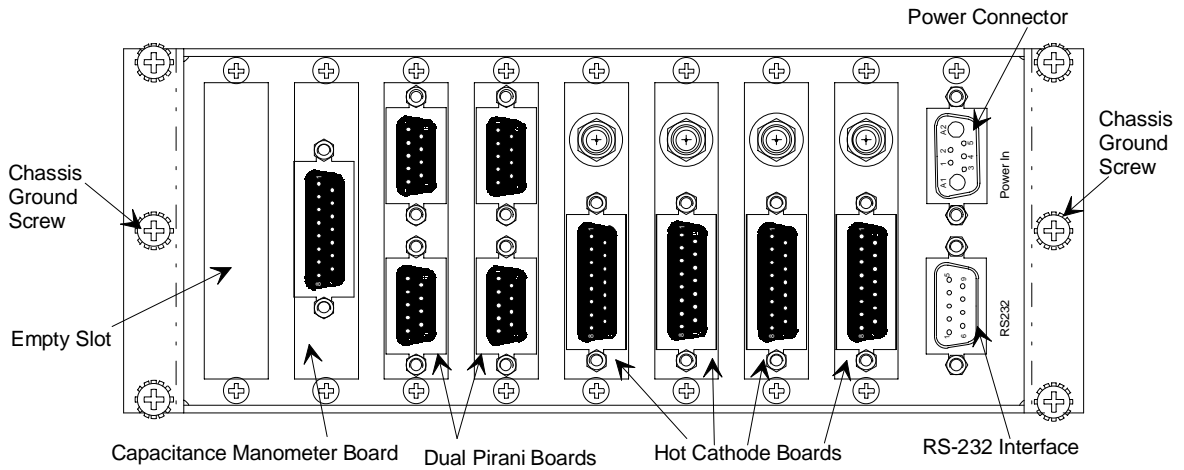
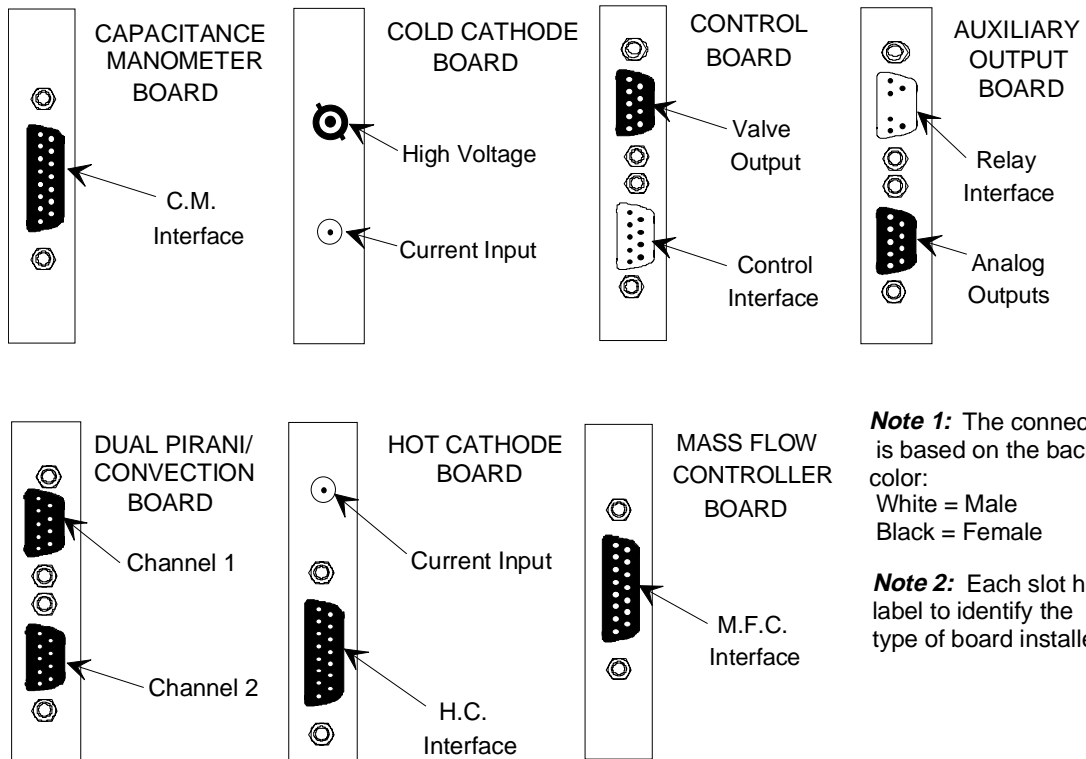

Figure 1: Rear Panel of the Type 186 Unit
Figure 2: Plug-In Boards
All or some of the following boards may have been ordered with your basic 186 instrument. Examine the rear panel of the 186 unit to make sure your unit conforms to your model code. Refer to Figure 1, page 23, to identify these boards by their connectors on the rear panel. *Appendix B: Model Code Explanation*, page 147, provides an explanation of the model code.
Figure 1, page 23, shows the rear panel of the 186 instrument with a Capacitance Manometer board, four Hot Cathode boards, and two Pirani boards. The rear panel on your instrument will conform to the ordering code used to purchase the instrument. Figure 2, page 23, shows the connectors on each board.
Mount the 186 instrument securely and use a grounding lug to connect the 186 instrument to a chassis ground source. If the mounting position does not provide a chassis ground source, run a cable from a known, good chassis ground to either middle screw on the rear panel of the 186 instrument. Refer to Figure 1, page 23, for the location of the middle screws.
- Connect the gauge or MFC interface cable to the appropriate 186 instrument connector. Refer to Figure 1, page 23, to identify the appropriate connector.
Refer to Figure 1, page 23, for the location of the Power connector, and Table 28, page 59, for a description of the power cable.
The RS232 connector, shown in Figure 1, page 23, is a standard 9-pin male Type “D” connector.